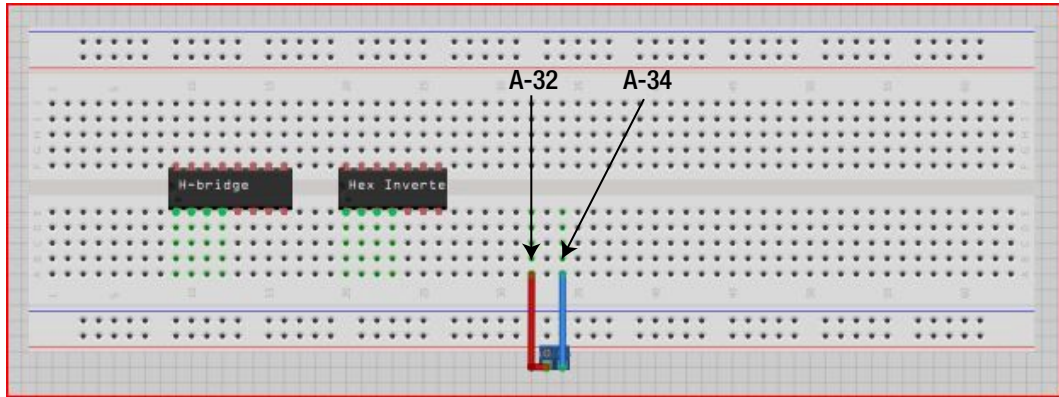

Figure 15-5. Attach the 2-position terminal block to the solderless breadboard
- Next, attach the 9V connector to the blue two-position terminal block; tighten down on the screws to make certain the wires are held in good and tight. If possible, insert the red wire to the left of the black wire, as shown in Figure 15-5, before plugging the terminal block into the solderless breadboard so that its pins are inserted into A-32 and A-34.